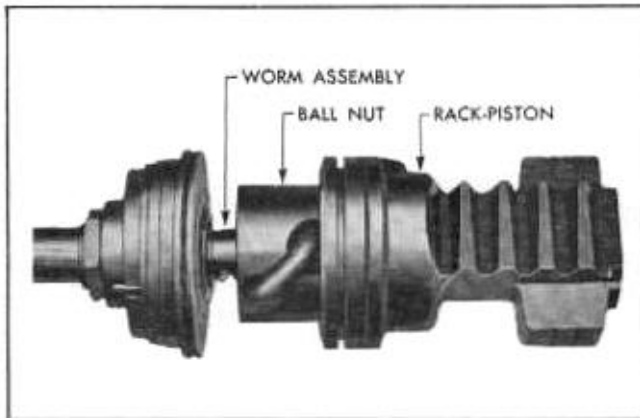

Fig. 9-35 Ball Nut and Worm Assembly Removed from Rack-Piston
2. Remove ball nut retaining screw and slide ball nut and worm assembly out of rack-piston with ball nut retaining screw hole down to prevent ball return guides and balls from falling out and losing balls (Fig. 9-35).